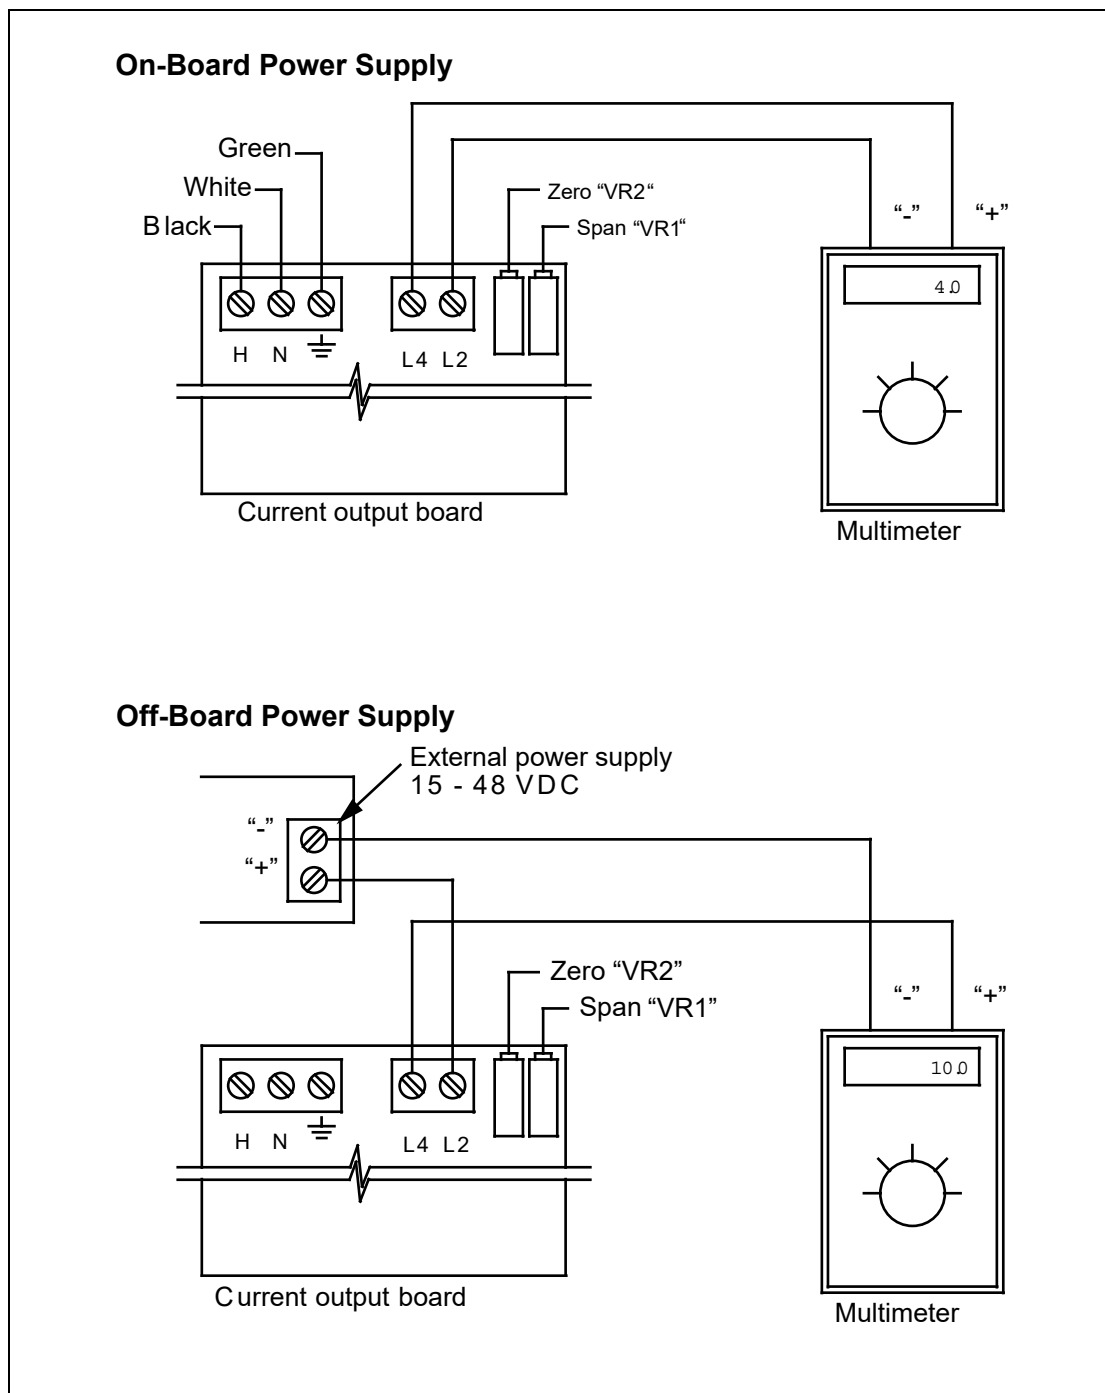

Figure 3-1: Calibration Test Setup
The 8200 COT(s) are calibrated at the factory for full-scale operation. The scale of the transmitter, however, can be set to any range between 45% and 100%. See Figure 3-1 on page 18 for the calibration wiring and setup. Note that a power supply is needed for the calibration procedure. If the transmitter does not have a Varec internal power supply, an external power supply must be used for calibration.
2. See Figure 3-1 on page 18 and connect calibration equipment to the transmitter.